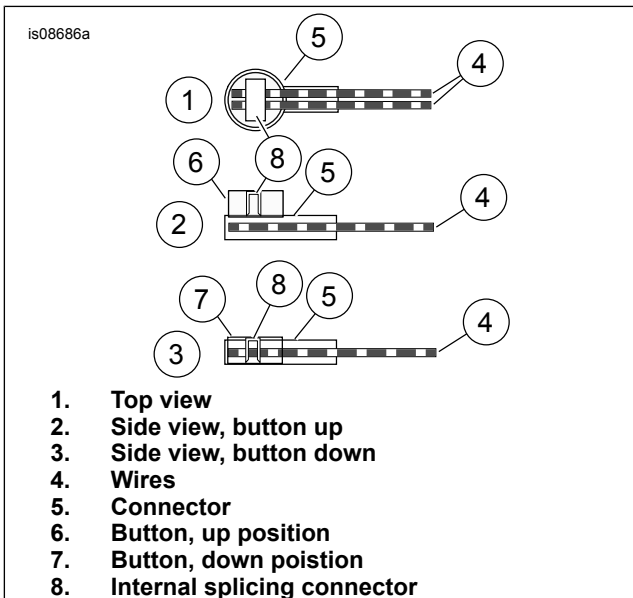

Figure 3. Splice Connector and wires
7. See Figure 3. Slide color matched wires (4) all the way into the connector (5) as shown.
8. Using a pliers to crimp the button from the up position (6) to the down position (7).